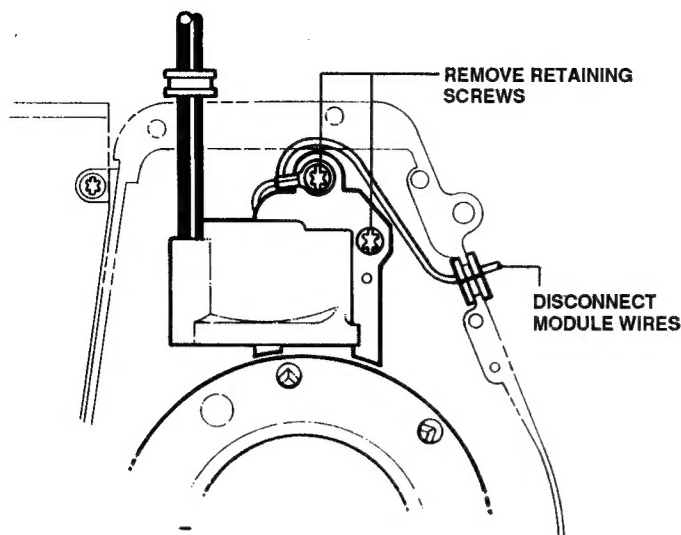

FIGURE 8
4. The theory that an "ignition either works or does not work" is not always true. Electronic Ignitions can produce intermittent spark or spark only at certain temperatures. Refer to the troubleshooting guide when in doubt about ignition problems. Replace the ignition by removing the two retaining screws and disconnecting the module wires. See Figure 8.